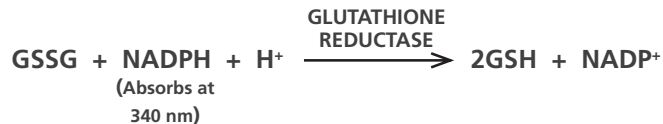

Figure 1. Reduction of glutathione disulfide (GSSG) by glutathione reductase and NADPH.
Glutathione reductase (GR), a homodimeric flavoprotein disulfide oxidoreductase, plays an indirect but essential role in the prevention of oxidative damage within the cell by helping to maintain appropriate levels of intracellular reduced glutathione (GSH). Reduced glutathione is essential for maintaining the normal structure of red blood cells and for keeping hemoglobin in the ferrous state¹. Glutathione reductase together with its co-factor, NADPH, catalyzes the reduction of oxidized glutathione (glutathione disulfide, GSSG) to glutathione (Figure 1). GSH is also a reactant for glutathione peroxidase, which converts hydrogen peroxide (H₂O₂) into water.
In this assay the oxidation of NADPH to NADP⁺ (Figure 1) is monitored by the decrease in absorbance at 340 nm. This rate of decrease in absorbance at 340 nm is directly proportional to the glutathione reductase activity in the sample because the enzyme is present at rate limiting concentrations²⁻⁴. The unit definition for glutathione reductase activity may be expressed in terms of the oxidation of NADPH or the reduction of GSSG since their molar ratio is 1:1. One unit of glutathione reductase oxidizes 1 μmol of NADPH per minute at 25°C, pH 7.5.